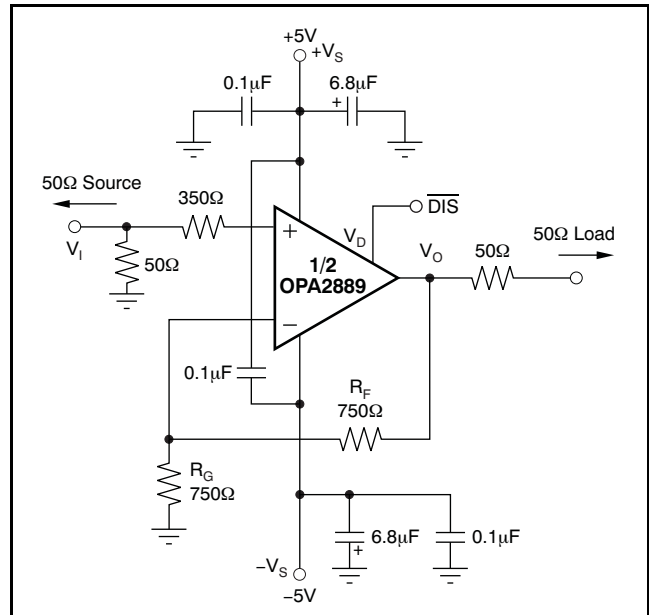
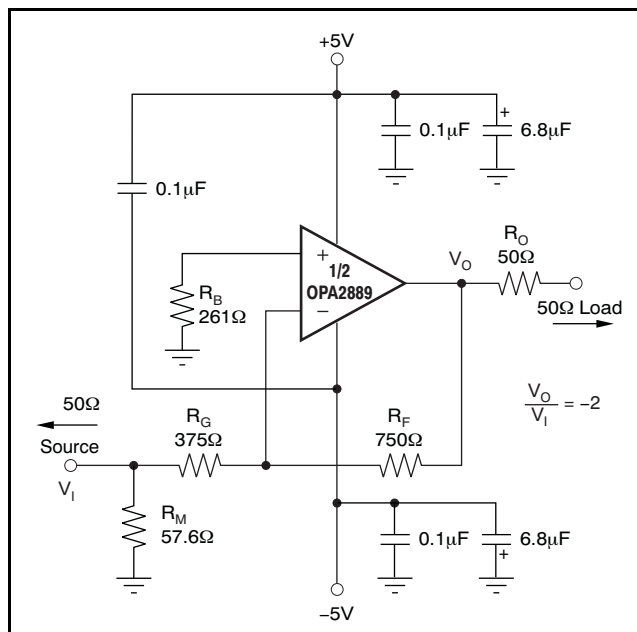

Figure 50. DC-Coupled, G = +2, Bipolar Supply, Specification and Test Circuit
Figure 60. Gain of -2V/V Example Circuit
At $T_A = +25^\circ C$, $G = +2V/V$, $R_F = 750\Omega$, and $R_L = 100\Omega$, unless otherwise noted. See Figure 50.
Figure 50 shows the dc-coupled, gain of +2V/V, dual power-supply circuit configuration used as the basis of the ±5V Electrical Characteristics and ±5V Typical Characteristics. This illustration is for one channel; the other channel is connected similarly. For test purposes, the input impedance is set to 50Ω with a resistor to ground and the output impedance is set to 100Ω. Voltage swings reported in the Electrical Characteristics are taken directly at the input and output pins, while output powers (dBm) are at the matched 50Ω load. For the circuit of Figure 50, the total effective load will be 100Ω || 1.5kΩ. The disable control line (MSOP-10 package only) is typically left open for normal amplifier operation. Two optional components are included in Figure 50. An additional resistor (350Ω) is included in series with the noninverting input. Combined with the 25Ω dc source resistance looking back towards the signal generator, this resistor gives an input bias current cancelling resistance that matches the 375Ω source resistance seen at the inverting input (see the DC Accuracy and Offset Control section). In addition to the usual power-supply decoupling capacitors to ground, a 0.1μF capacitor is included between the two power-supply pins. In practical printed circuit board (PCB) layouts, this optional-added capacitor typically improves the 2nd-harmonic distortion performance by 3dB to 6dB.
A good rule of thumb is to target the parallel combination of R_F and R_G (see Figure 50) to be less than approximately 400Ω. The combined impedance $R_F \parallel R_G$ interacts with the inverting input capacitance, placing an additional pole in the feedback network and thus, a zero in the forward response. Assuming a 2pF total parasitic on the inverting node, holding $R_F \parallel R_G < 400\Omega$ keeps this pole above 160MHz. By itself, this constraint implies that the feedback resistor R_F can increase to several kΩ at high gains. This increase in resistor size is acceptable as long as the pole formed by R_F and any parasitic capacitance appearing in parallel is kept out of the frequency range of interest.
Voltage-feedback op amps exhibit decreasing closed-loop bandwidth as the signal gain increases. In theory, this relationship is described by the Gain Bandwidth Product (GBP) shown in the Electrical Characteristics. Ideally, dividing GBP by the noninverting signal gain (also called the Noise Gain, or NG) predicts the closed-loop bandwidth. In practice, this principle only holds true when the phase margin approaches 90°, as it does in high gain configurations. At low gains (increased feedback factors), most amplifiers exhibit a more complex response with lower phase margin. The OPA2889 is compensated to give a slightly peaked response in a noninverting gain of 2V/V (see Figure 50). This compensation results in a typical gain of +2V/V bandwidth of 60MHz, far exceeding that predicted by dividing the 75MHz GBP by 2. Increasing the gain causes the phase margin to approach 90° and the bandwidth to more closely approach the predicted value of (GBP/NG). At a gain of +10, the 8MHz bandwidth shown in the Electrical Characteristics agrees closely with that predicted using the simple formula and the typical GBP of 75MHz.
The frequency response in a gain of +2V/V may be modified to achieve exceptional flatness simply by increasing the noise gain to 2.5V/V. One way to modify the response without affecting the +2V/V signal gain, is to add a 750Ω resistor across the two inputs, as shown in the circuit of Figure 50. A similar technique may be used to reduce peaking in unity-gain (voltage follower) applications. For example, by using a 750Ω feedback resistor along
The OPA2889 is a general-purpose, wideband, voltage-feedback op amp; therefore, all of the familiar op amp application circuits are available to the designer. Inverting operation is one of the more common requirements and offers several performance benefits. See Figure 60 for a typical inverting configuration where the I/O impedances and signal gain from Figure 50 are retained in an inverting circuit configuration.
In the inverting configuration, three key design considerations must be noted. The first is that the gain resistor (R_G) becomes part of the signal channel input impedance. If input impedance matching is desired (which is beneficial whenever the signal is coupled through a cable, twisted-pair, long PCB trace, or other transmission line conductor), R_G may be set equal to the required termination value and R_F adjusted to give the desired gain. This consideration is the simplest approach and results in optimum bandwidth and noise performance. However, at low inverting gains, the resultant feedback resistor value can present a significant load to the amplifier output. For an inverting gain of -2V/V, setting R_G to 50Ω for input matching eliminates the need for R_M but requires a 100Ω feedback resistor. This approach has the interesting advantage that the noise gain becomes equal to 2V/V for a 50Ω source impedance—the same as the noninverting circuits considered in Figure 60. The amplifier output, however, now sees the 100Ω feedback resistor in parallel with the external load. In general, the feedback resistor should be limited to the 200Ω to 1.5kΩ range. In this case, it is preferable to increase both the R_F and R_G values (see Figure 60), and then achieve the input matching impedance with a third resistor (R_M) to ground. The total input impedance becomes the parallel combination of R_G and R_M .
The second major consideration, touched on in the previous paragraph, is that the signal source impedance becomes part of the noise gain equation and influences the bandwidth. For the example in Figure 60, the R_M value combined in parallel with the external 50Ω source impedance yields an effective driving impedance of $50Ω \parallel 57.6Ω = 26.7Ω$. This impedance is added in series with R_G for calculating the noise gain (NG). The resulting NG is 2.86V/V for Figure 60, as opposed to only 2V/V if R_M could be eliminated as discussed above. Therefore, the bandwidth is slightly lower for the gain of -2V/V circuit of Figure 60 than for the gain of +2V/V circuit of Figure 50.
The third important consideration in inverting amplifier design is setting the bias current cancellation resistor on the noninverting input (R_B). If this resistor is set equal to the total dc resistance looking out of the inverting node, the output dc error, as a result of the input bias currents, is reduced to $(\text{Input Offset Current}) \times R_F$. If the 50Ω source impedance is dc-coupled in Figure 60, the total resistance to ground on the inverting input is 402Ω.
The OPA2889 provides good distortion performance into a 200Ω load on $\pm 5V$ supplies. Relative to alternative solutions, it provides exceptional performance into lighter loads and/or operating on a single +5V supply. Generally, until the fundamental signal reaches very high frequency or power levels, the 2nd-harmonic dominates the distortion with a negligible 3rd-harmonic component. Focusing then on the 2nd-harmonic, increasing the load impedance improves distortion directly. Remember that the total load includes the feedback network; in the noninverting configuration (see Figure 50), this total is the sum of $R_F + R_G$, while in the inverting configuration it is just R_F . Also, providing an additional supply-decoupling capacitor ($0.1\mu F$) between the supply pins (for bipolar operation) improves the 2nd-order distortion slightly (3dB to 6dB). Operating differentially also lowers 2nd-harmonic distortion terms (see the plot on the front page).
Evaluating these two equations for the OPA2889 circuit and component values (see Figure 50) gives a total output spot noise voltage of $18.2\text{nV}/\sqrt{\text{Hz}}$ and a total equivalent input spot noise voltage of $9.1\text{nV}/\sqrt{\text{Hz}}$. This total includes the noise added by the bias current cancellation resistor (350Ω) on the noninverting input. This total input-referred spot noise voltage is slightly higher than the $8\text{nV}/\sqrt{\text{Hz}}$ specification for the op amp voltage noise alone. This result is the case as long as the impedances appearing at each op amp input are limited to the
previously recommend maximum value of 400Ω . Keeping both ($R_F \parallel R_G$) and the noninverting input source impedance less than 400Ω satisfies both noise and frequency response flatness considerations. Because the resistor-induced noise is relatively negligible, additional capacitive decoupling across the bias current cancellation resistor (R_B) for the inverting op amp configuration of Figure 60 is not required.
The balanced input stage of a wideband voltage-feedback op amp allows good output dc accuracy in a wide variety of applications. The power-supply current trim for the OPA2889 gives even tighter control than comparable amplifiers. Although the high-speed input stage does require relatively low $\pm 0.75\mu\text{A}$ input bias current, the close matching between them may be used to reduce the output dc error caused by this current. The total output offset voltage may be reduced by matching the dc source resistances appearing at the two inputs. This matching reduces the output dc error resulting from the input bias currents to the offset current times the feedback resistor. Evaluating the configuration of Figure 50, and using worst-case $+25^\circ\text{C}$ input offset voltage and current specifications, gives a worst-case output offset voltage equal to: